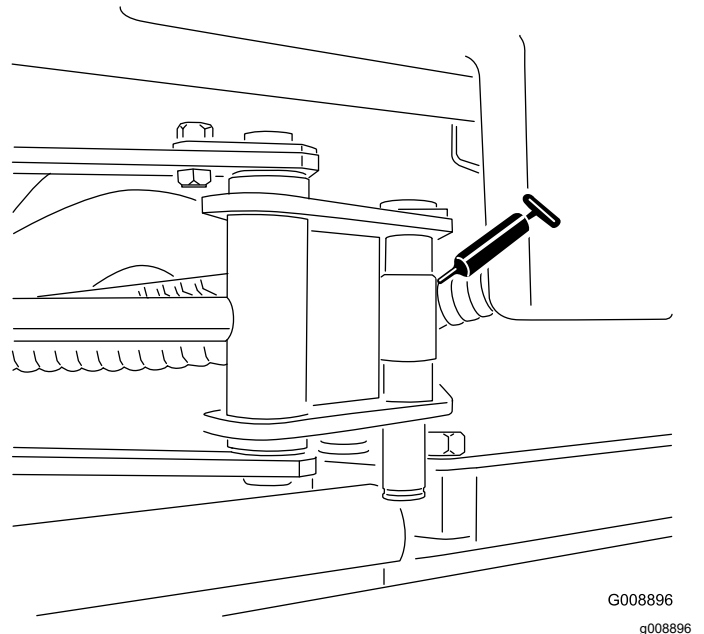

Figure 33
- 2 sidewinder-cylinder ends (Figure 33)